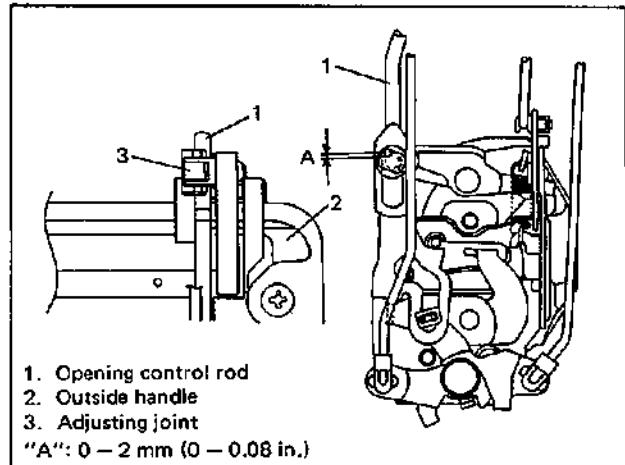

Fig. 9-20
- When installing opening control rod (1 in Fig. 9-20) to outside handle (2), turn adjusting joint (3) to adjust distance "A" to 0 to 2 mm (0 to 0.08 in.) as shown.